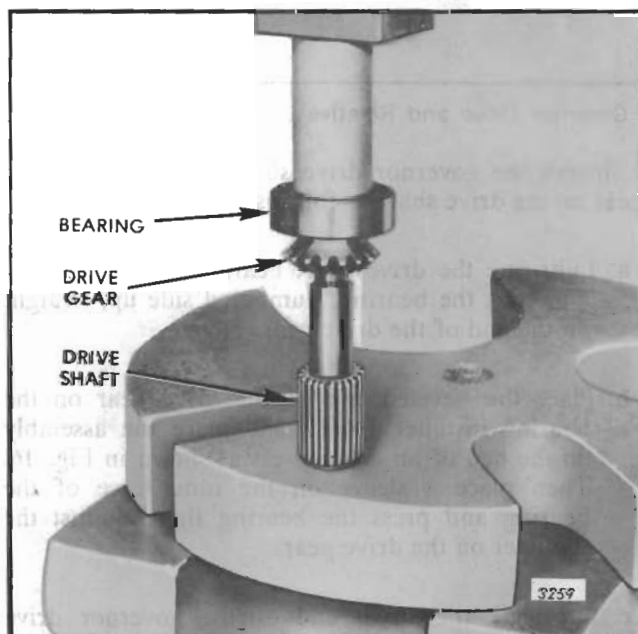

Fig. 17 - Installing Drive Gear and Bearing on Drive Shaft
- d. Place the drive shaft, gear and bearing assembly on the bed of an arbor press, with the bearing and gear end up (Fig. 17). Then place a sleeve or a brass rod on the inner race of the bearing and press the drive gear tight against the shoulder on the shaft.